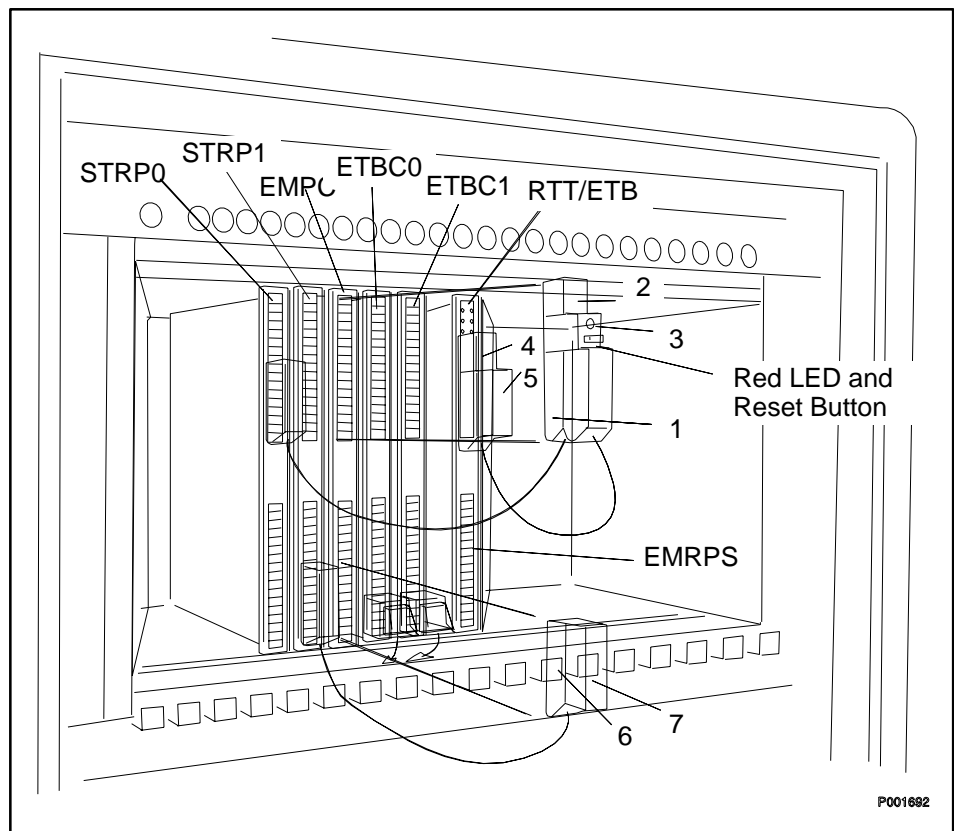

Figure 17 Strapping EMPC with EMRPS board:
When the TRI is equipped with an EMRPS board, strapping plug, RNV 991 03 is also used to set the address for the EMRP. Strapping versions RNV 991 03/n (n=9-24) can be used which corresponds to EM addresses 8-23. For positioning of the strapping plug, see item 4 in figure 17. The EM value is set by a command in the data transcript.
A strapping plug, RNV 991712/001, is used for LED indication on working status and reset of the EMPC. For positioning of the strapping plug, see item 3 in figure 17.
Each EMRPB is to be terminated by means of a strapping plug, RNV 991 223/004. For positioning of the strapping plugs, see items 5 and 7 in figure 17.